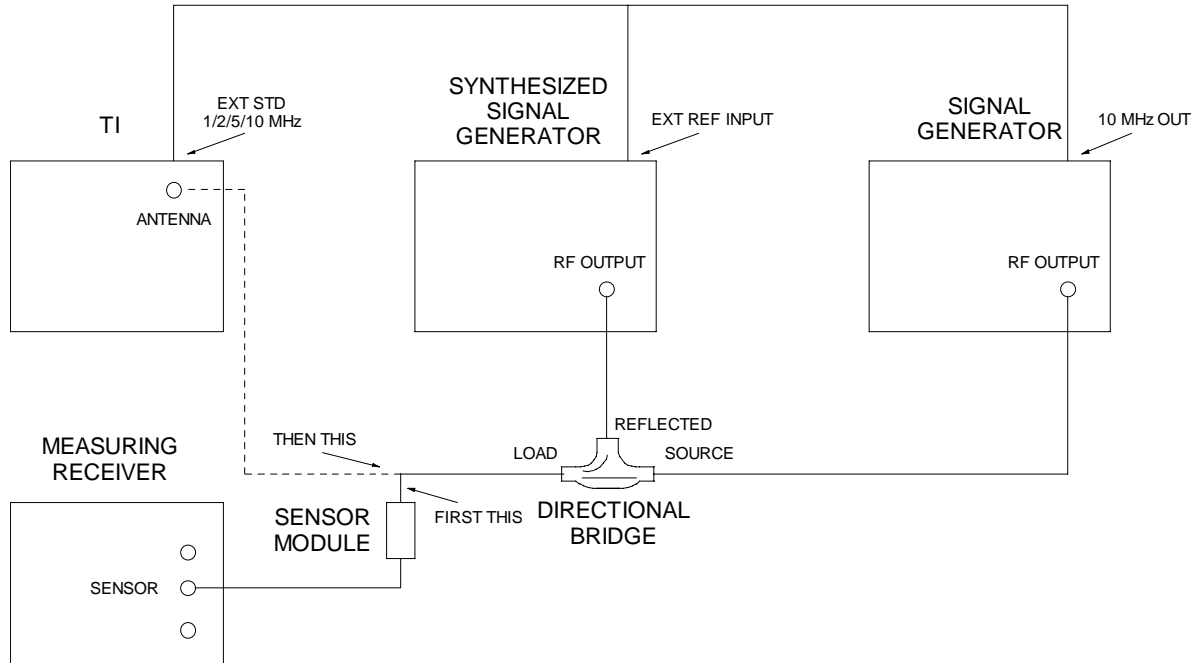

Figure 4.
4.5.2.2 Connect the equipment as shown in Figure 4 with the Power Sensor connected to the Directional Bridge (TI is not connected at this time).